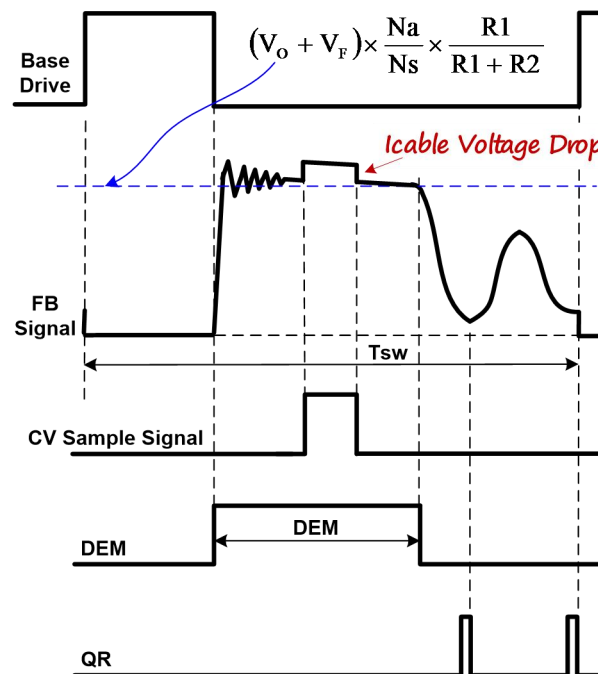

Fig.2
In Primary Side Regulation (PSR) control, the output voltage is sensed on the auxiliary winding during the transfer of transformer energy to the secondary. Fig.2 illustrates the timing waveform of CV sampling signal, demagnetization signal (DEM) and quasi-resonant (QR) trigger signal in DP3773A. When the CV sampling process is over, the internal sample/hold (S&H) circuit captures the error signal and amplifies it through the internal Error Amplifier (EA). The output of EA is sent to the Quasi Resonant PSR CV Modulator (QR-CVM) for CV regulation. A valley is selected to trigger new PWM cycle by the output of the QR-CVM block, which is determined by the load. The internal reference voltage for EA is trimmed to 2V with high accuracy.
During the CV sampling process, an internal variable current source is flowing to FB pin for Cable Drop Compensation (CDC). Thus, there is a step at FB pin in the transformer demagnetization process, as shown in Fig.2. Fig.2 also illustrates the equation for “demagnetization plateau”, where Vo and Vf is the output voltage and diode forward voltage; R1 and R2 is the resistor divider connected from the auxiliary winding to FB Pin, Ns and Na are